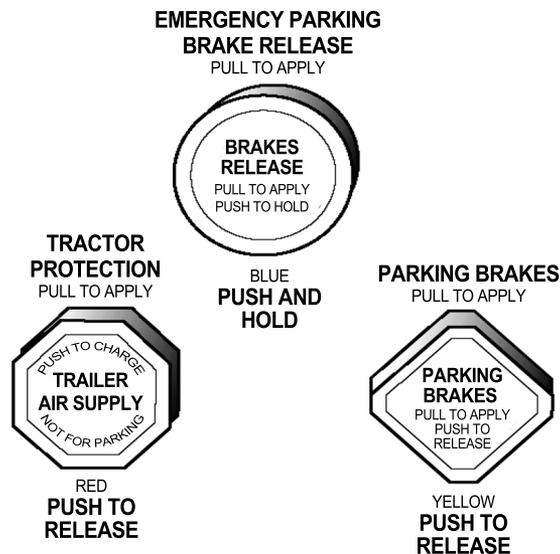

Figure 5.3
**Dual Parking Control Valves.** When main air pressure is lost, the spring brakes come on. Some vehicles, such as buses, have a separate air tank which can be used to release the spring brakes. This is so you can move the vehicle in an emergency. One of the valves is a push-pull type used to put on the spring brakes for parking. The other valve is spring loaded in the “out” position. When you push the control in, air from the separate air tank releases the spring brakes so you can move. When you release the button, the spring brakes come on again. There is only enough air in the separate tank to do this a few times. Therefore, plan carefully when moving. Otherwise, you may be stopped in a dangerous location when the separate air supply runs out. See Figure 5.3.